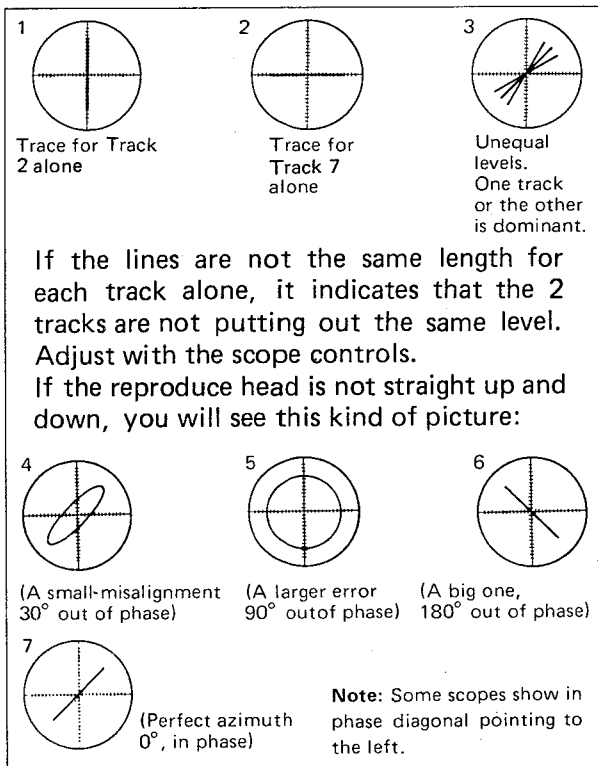

Fig. 7-29. Phase Shift
5. Load the reproduce alignment test tape to reproduce. Then, a scope display reading showing phase relations between both channels will be obtained as shown in Fig. 7-29.